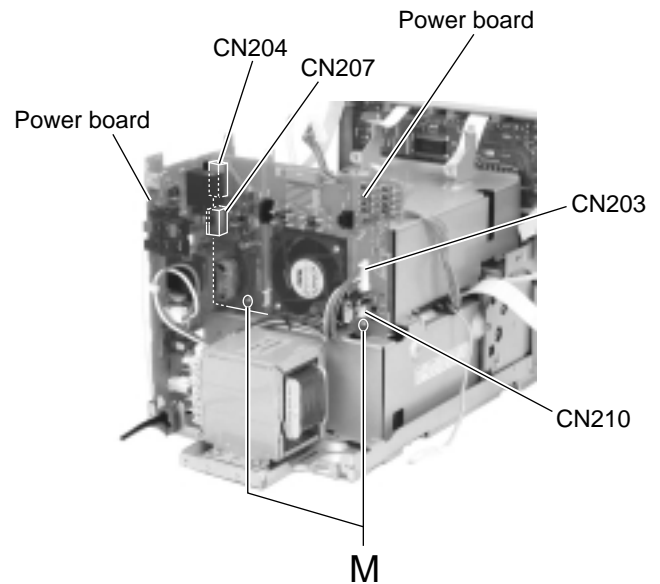

Fig.21
■ Removing the power board (See Fig.21)